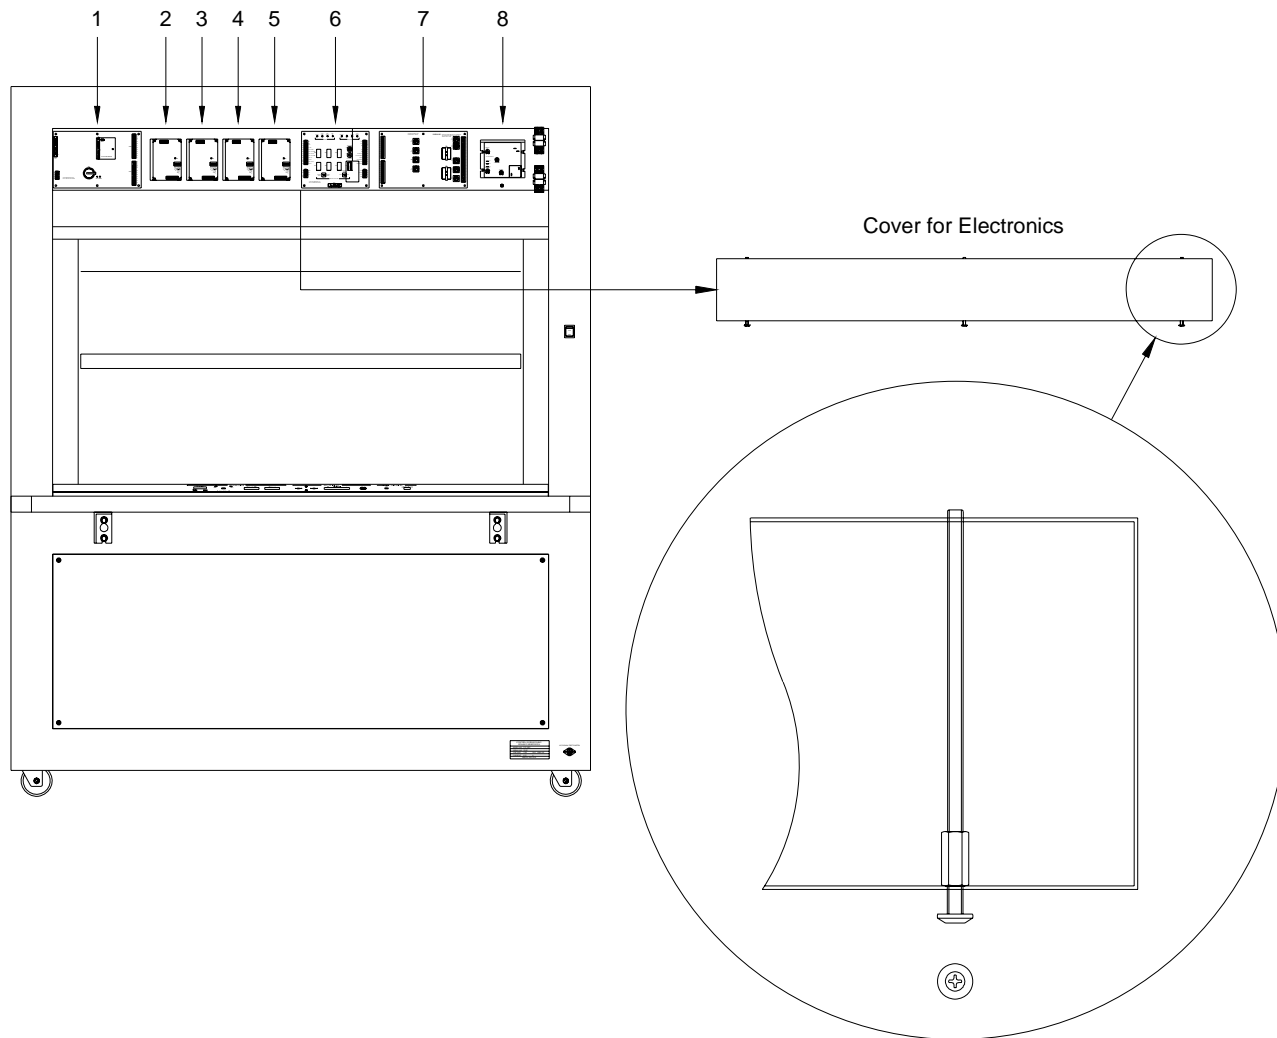

Figure 5-3-1. Locating PC Boards
- f. Locate the Relay Interface Board (see Figure 5-3-1) and remove the wire from TB-1 #9 (see Figure 5-2-e). This will disable the magnetic sensor for the up limit and allow the transport band to be driven past its normal end position.
There are eight (8) PC Boards located behind the Cover for Electronics, as shown in Figure 5-3-1. In addition, there are two (2) PC Boards integrated with the Control Panel.
In order to gain access to the upper eight PC Boards, make certain **power is off** and the **line cord is disconnected**, then remove the Cover for Electronics as shown in Figure 5-3-1.
There are eight (8) PC boards located behind the Cover for Electronics, as shown in Figure 5-3-1. See section 5.3 "Locating PC Boards." There are also two (2) PC boards integrated with the control panel but they will be covered in the section for the control panel.